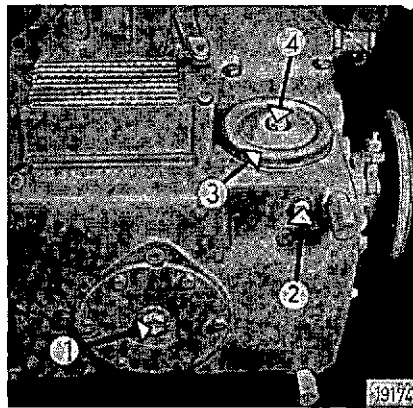
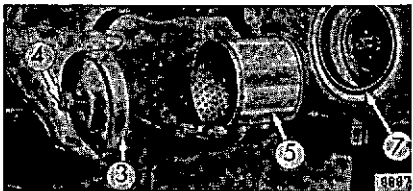

Fig. 22
Fig. 23
**Carry out oil changes only when the engine is warm** as the oil drains off better when warm. Remove for this plugs 1 and 2 (Fig. 22). Next remove screw 4 to detach filter bowl 3 and wash strainer 5 (Fig. 23) in clean diesel fuel.
\* The lube oil filter (Fig. 23) consists of strainer 5, through which the oil, coming from the oil pump, is forced and deposits its impurities on the jacket surface. The filtered oil reaches the lubrication points.